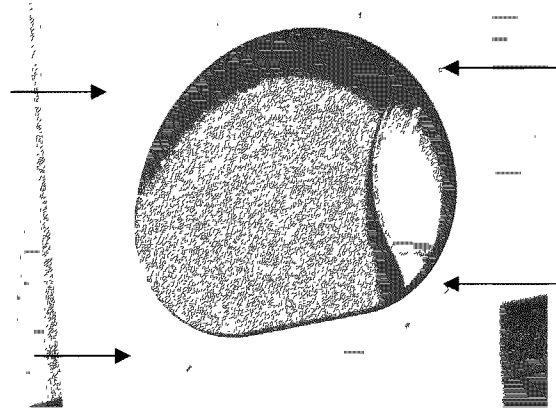

Figure 4
5 Remove two (2) door handle screws and two (2) hole plugs from door. Again taking care not to scratch paint on door (Figure 4)